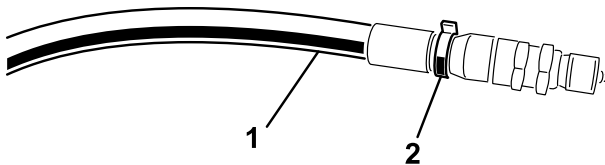

Figure 15
**Note:** Mark the high-pressure hose with a cable tie to identify the correct hose installation (Figure 15).